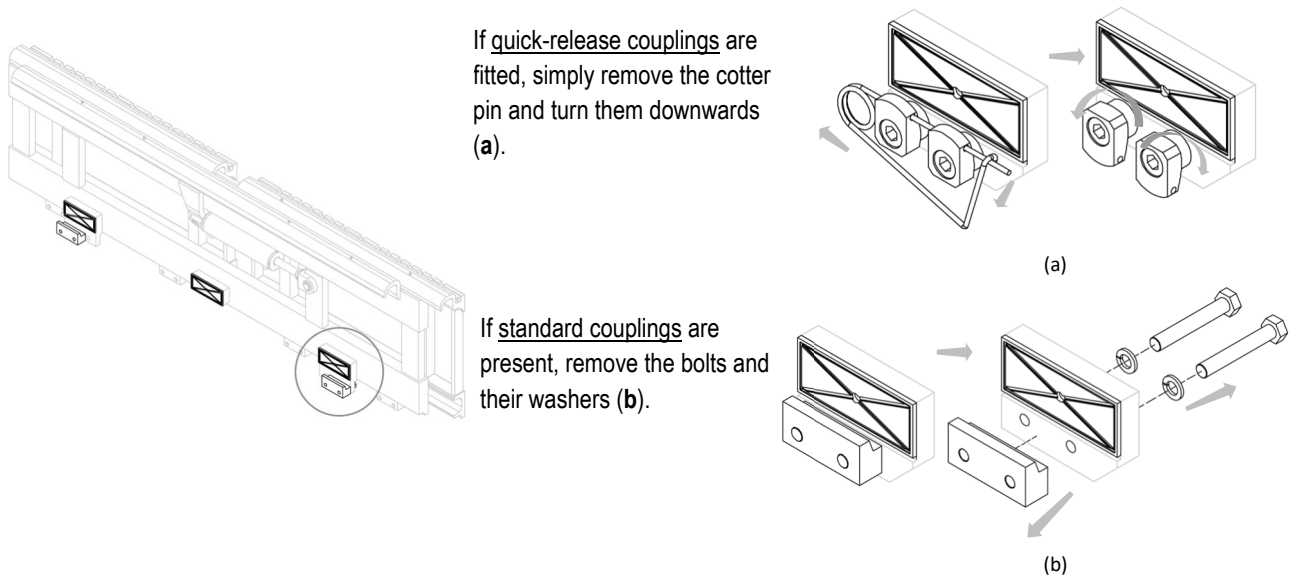

Figure 4
6. Remove the lower couplings from the equipment and grease the sliding gibs/rollers (see Figure 4).